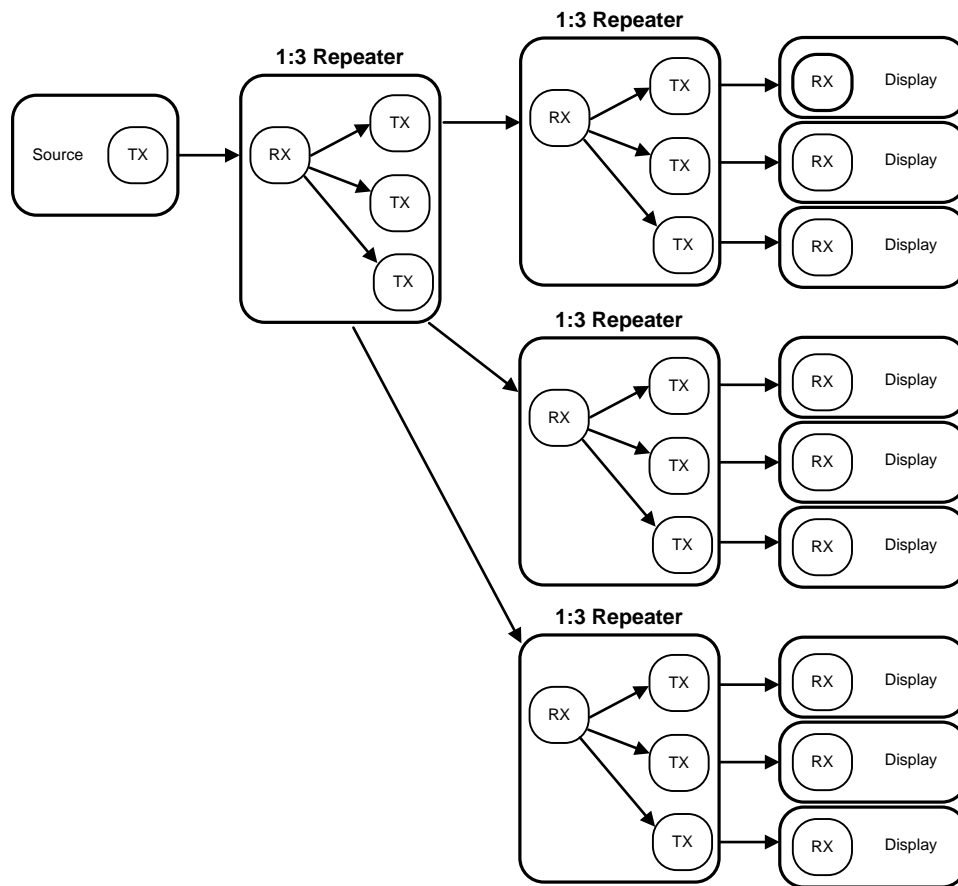

Figure 19. Maximum Repeater Application
In the repeater application, this document refers to the DS90UB927Q as the Transmitter (TX), and refers to the DS90UB928Q as the Receiver (RX). Figure 19 shows the maximum configuration supported for Repeater implementations using the DS90UB925/7Q (TX), and DS90UB926/8Q (RX). Two levels of Repeaters are supported with a maximum of three Transmitters per Receiver. To ensure parallel video interface compatibility, repeater nodes should feature either the DS90UB926Q/DS90UB925Q (RX/TX) chipset or the DS90UB927Q/DS90UB928Q (RX/TX) chipset.